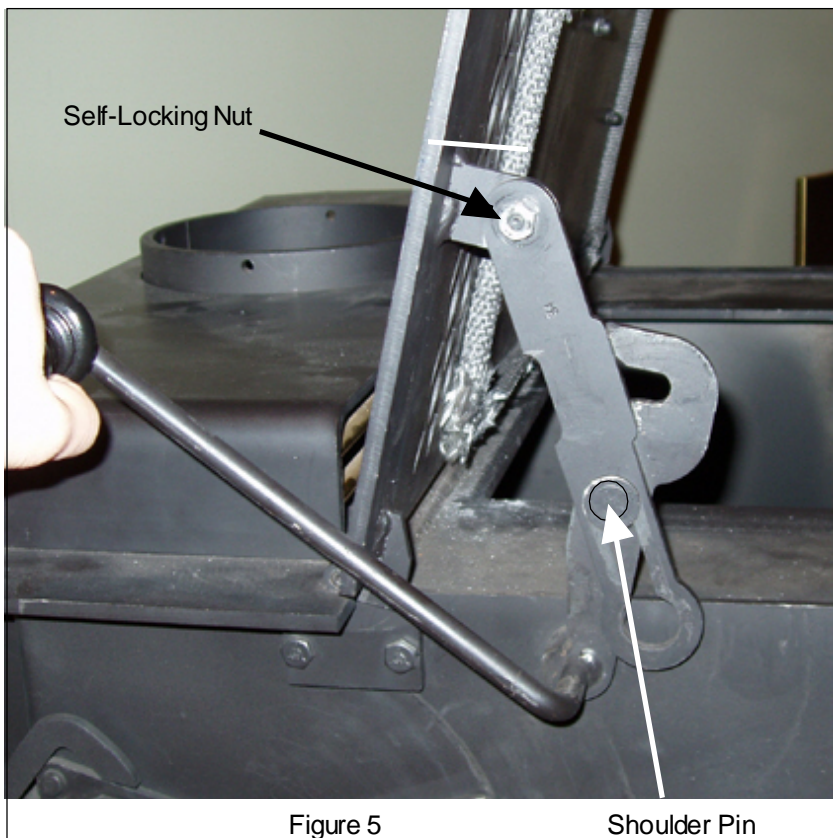

Figure 5
- Slide the top lift arm onto the shoulder pin on the drive arm. Check positioning of top lift arm. (See Fig. 5)